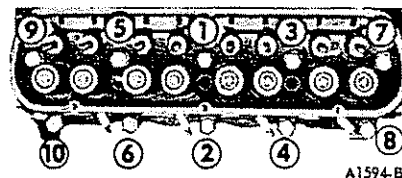

FIG. 49 Cylinder Head Bolt Tightening Sequence
3. The cylinder head bolts are tightened in three progressive steps. Tighten all the bolts in sequence (Figure 49) to specifications. When cylinder head bolts have been tightened following this procedure, it is not necessary to retighten the bolts after extended operation. However, the bolts may be checked and retightened if desired.